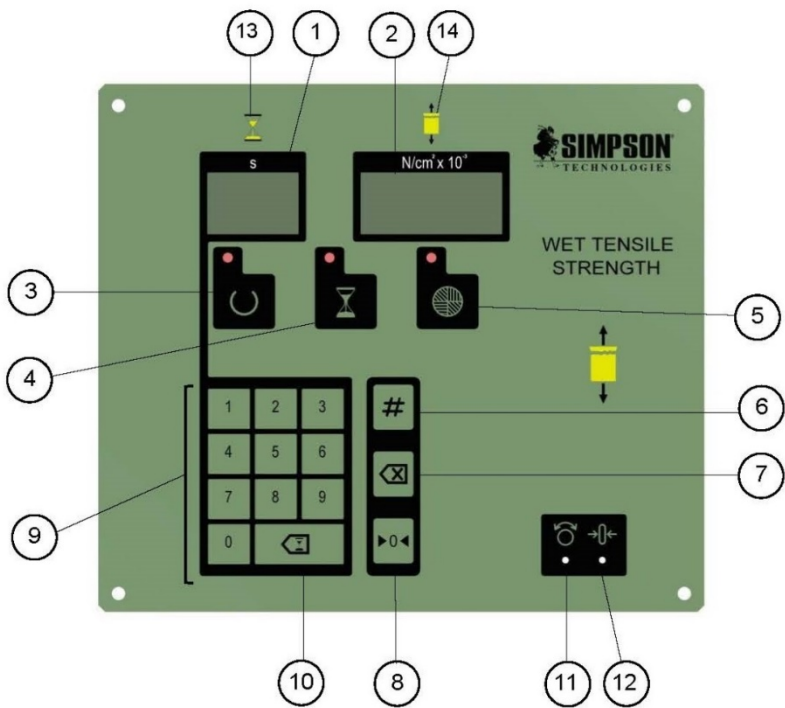

Figure 7-1 - Electronic Panel
- » Erase the wet tensile strength value by pressing the Clear Tensile Display button (Figure 7-1, Item 7). The Wet Tensile Strength load display (Figure 7-1, Item 2) will change to zero. If this step does not bring the load display to zero, then press the Zero Tensile Display button (Figure 7-1, Item 8) to zero the load display).
- » Erase the heating time, if necessary, by pressing the Clear Time button (Figure 7-1, Item 10).
- » The Ready to Start indicator (Figure 7-1, Item 3) will turn on indicating that the Wet Tensile Strength Tester is ready for another test.
This information can be used to identify and troubleshoot any error messages that may appear in the load display (Figure 7-1, Item 2) of the Wet Tensile Strength Tester.
If an error message appears in the load display, it is necessary to press the Clear Tensile Display button (Figure 7-1, Item 7) to recover the operating system of the Wet Tensile Strength Tester.
- » The Ready to Start indicator (Figure 7-1, Item 3) was off.
This error message may also appear immediately after pressing the Zero Tensile Display button (Figure 7-1, Item 8) if the Wet Tensile Strength Tester detects any load disturbance on the measuring fork or the measuring fork was disturbed and/or mechanically jammed at the time the Zero Tensile Display button was pressed.
6. With a stopwatch, carefully measure the time that elapses from the moment values start to appear in the load display (Figure 7-1, Item 2) until the first steady values appear in the digital display. Note the time required to complete loading. The load application rate is calculated by dividing the indicated wet tensile strength by the measured time in seconds.
2. Carefully adjust the calibration Zero (Figure 7-1, Item 12) using a small screwdriver through the small access hole in the electronic front panel. Slowly and gently rotate the calibration Zero screw to achieve a 00 reading in the load display (Figure 7-1, Item 2).
Carefully adjust the calibration span (Figure 7-1, Item 11) using a small screwdriver through the small access hole in the electronic front panel. Slowly and gently rotate the calibration screw while watching the load display (Figure 7-1, Item 2). Adjust screw until the weight of the Master Calibration Weight is shown of the load display.
6. The load display (Figure 7-1, Item 2) should read 00. If not, then repeat Steps 2 through 6 until the load display indicates 00 after
3. Using the numeric keypad (Figure 7-1, Item 9), enter a short heating time (2 seconds). See Section 5.2 “Performing a Wet Tensile Strength Test” for detailed procedure on programming heating time.
5. Press the button (Figure 7-1, Item 6). The table and alignment tube will rise up and contact the heating plate. The table will be held in this position for the program heating time. After this, the table will slowly drop, and the flange of the alignment tube will contact the support pins of the measuring fork.